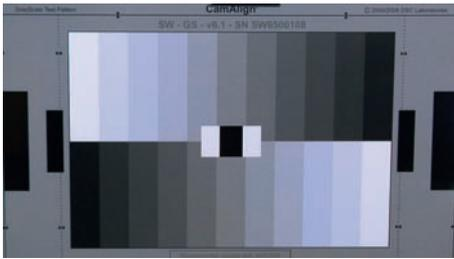
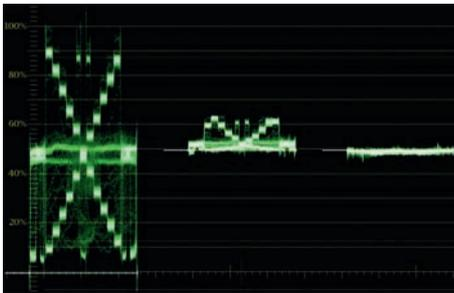
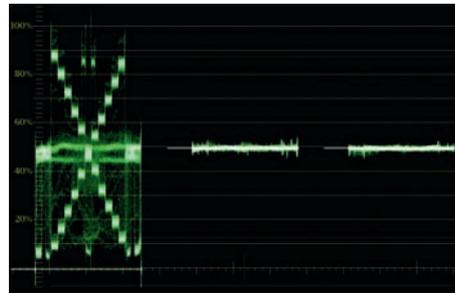

Figure 3-58 Chip chart with a blue cast in the highlights only.
Figure 3-60 YCbCr Parade display of the chip chart in Figure 3-58.
Figure 3-61 YCbCr Parade display of the chip chart in Figure 3-59.
we'll go back to DSC Labs GrayScale Test Pattern. The image we'll use is one that was captured after taking the straight chip chart image. We'll turn just the highlights blue, leaving the rest of the image untouched (see Figure 3-58).
In Figure 3-58, there is little or no chroma information in the midtones and blacks. Only the highlights have been adjusted to show blue. This is seen on the YCbCr Parade in Figure 3-60. On the left is the luminance or Y value.
The next two parts of the parade image are harder to understand (Figure 3-60). The first cell indicates the luminance (Y) of the image. The middle cell in the waveform is displaying Cb, which is the difference between the luminance and the blue channel. The trace shows that there are elevated blue levels. The right image on the waveform is showing Cr, which is the difference between the luminance and the red channel. This display is showing that the red is deficient in portions of the image. If the image had no chroma values, the Cb and Cr traces would be centered on the line, showing no excursion as in Figure 3-61.